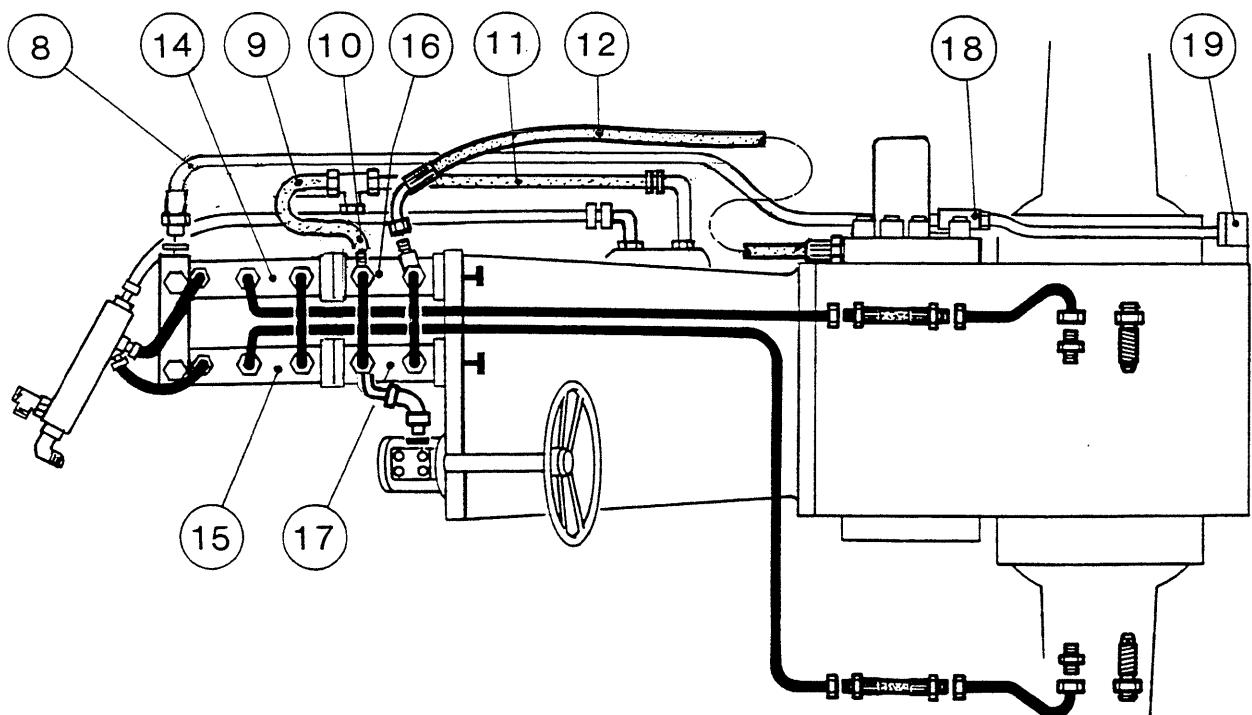

Fig. 2
- with braking servo-assistance, with trailer brake (Fig. 2),